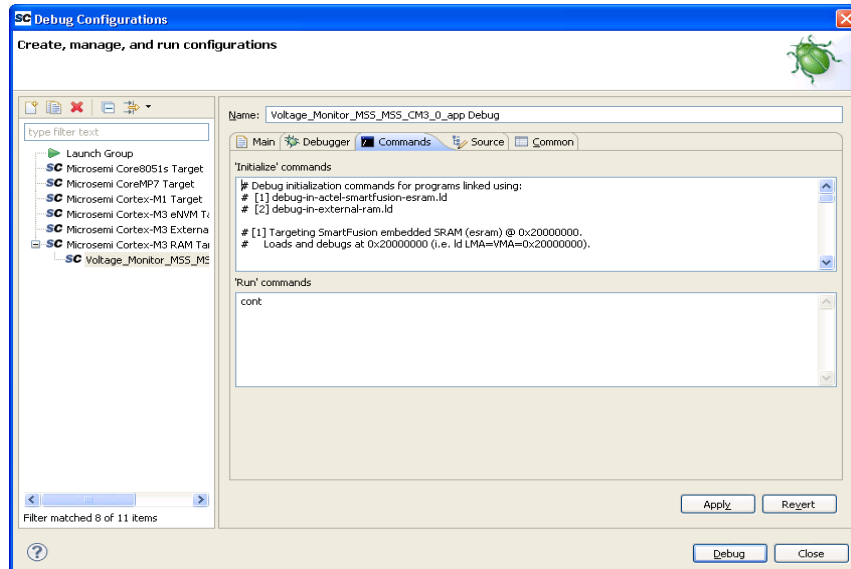

Figure 33 Debugger Commands
4. Select the **Commands** tab. Confirm that commands appear in the Initialize and Run command sections, as shown in Figure 33.